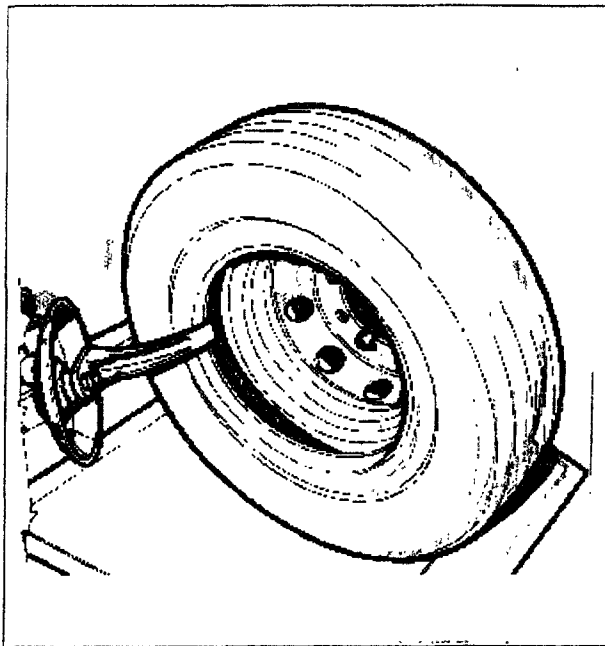

Fig.32
4. Rotate the chuck counter clockwise until the outer bead is completely demounted (Fig.32).